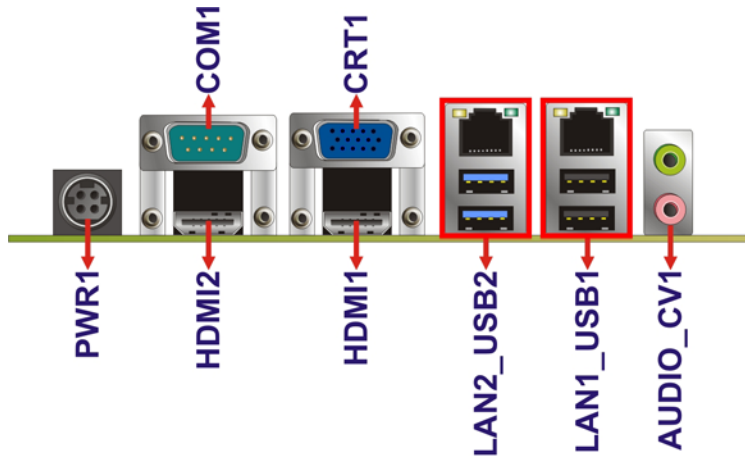

Figure 3-24: KINO-QM670 External Peripheral Interface Connector
Figure 3-24 shows the KINO-QM670 external peripheral interface connector (EPIC) panel.
- CN Location:** See **Figure 3-24**
CN Location:	See Figure 3-24